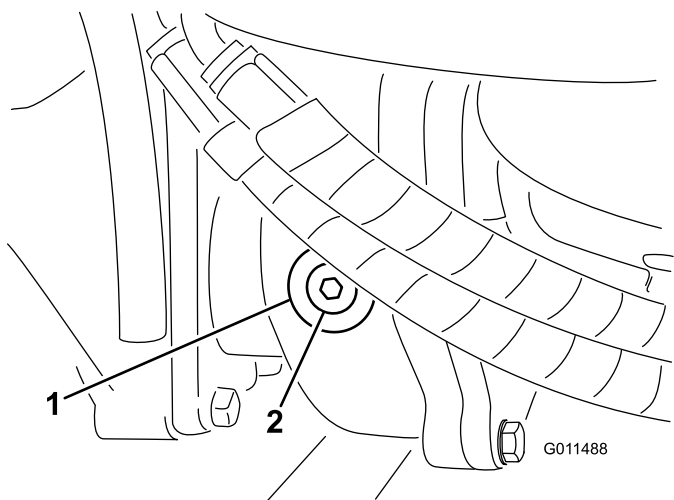

Figure 17
2. Remove the check/fill plug from the left side of the gear box and ensure that lubricant is up to the bottom of the hole (Figure 17).